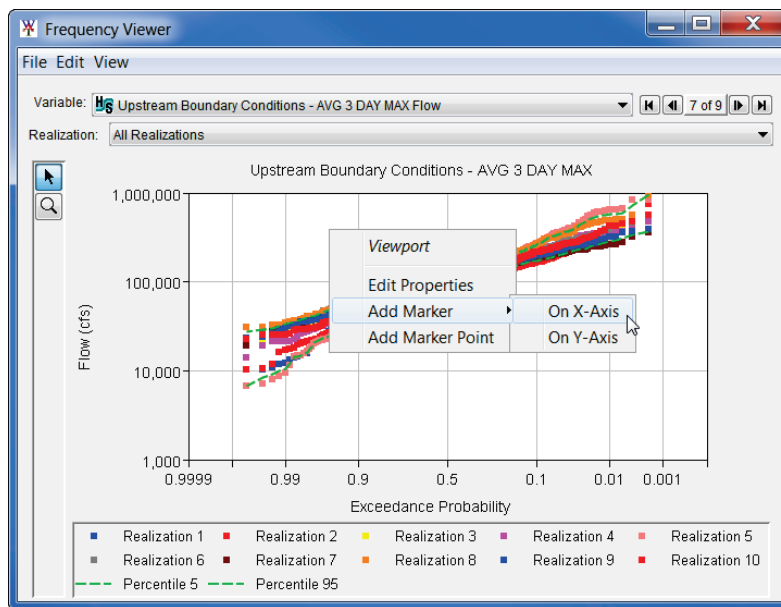

Figure M.7 Plot – Viewport Shortcut Menu
- Right-click on a plot window where a marker needs to be added (Figure M.7). From the shortcut menu, point to **Add Marker** (Figure M.7), click on which axis the marker line should be placed – **On X-Axis** or **On Y-Axis**.
- Right-click on a plot window where a marker needs to be added (Figure M.7). From the shortcut menu, click to **Add Marker Point** (Figure M.7).